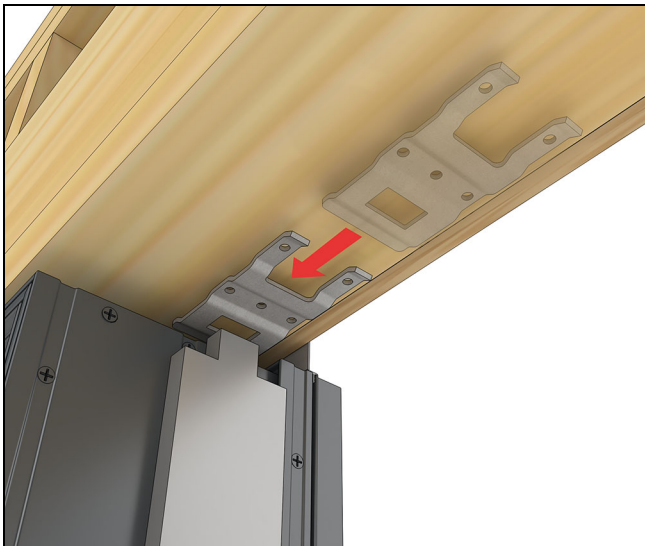

Figure 20
6. Slide the top mull bracket so that it fits over the tab on the mull steel. See Figure 20.